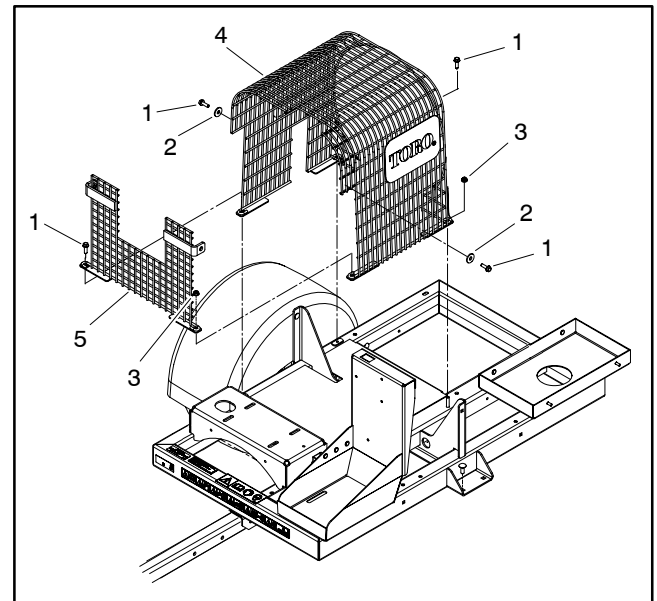

Figure 3
3. Remove top grill to allow access to blower drive shaft (Fig. 3).
6. Install top grill to machine (Fig. 3).